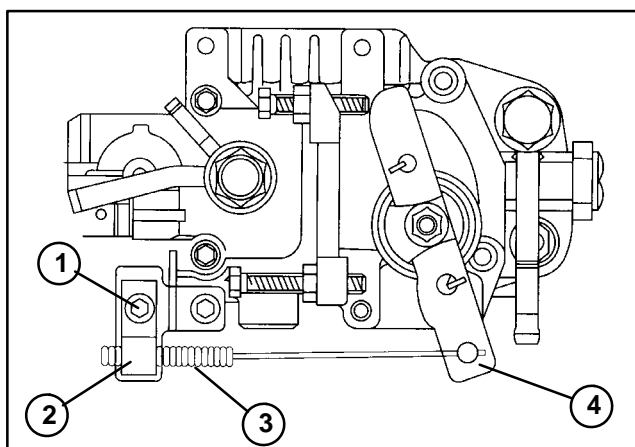

Figure 25
11. Loosen socket head screw securing the throttle cable to cable clamp. Disconnect cable from the cable clamp and speed control lever (Fig. 25).
9. Connect cable to the cable clamp and speed control lever. Loosen socket head screw securing the throttle cable to cable clamp. (Fig. 25).